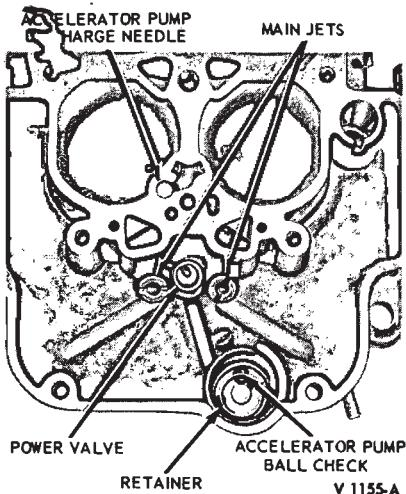

FIG. 9—Main Body Valves and Jets Autolite Model 4300 4-V
1. Place the accelerating pump ball check in the pump inlet hole of the pump chamber. Install the ball check retaining ring (Fig. 9).
1. Turn the main body upside down and catch the accelerating pump discharge needle (Fig. 9).
2. With a 3/8 deep socket, remove the power valve from the floor of the main body fuel bowl (Fig. 9).
3. Remove the main metering jets (Fig. 9) from the fuel bowl with a jet tool.